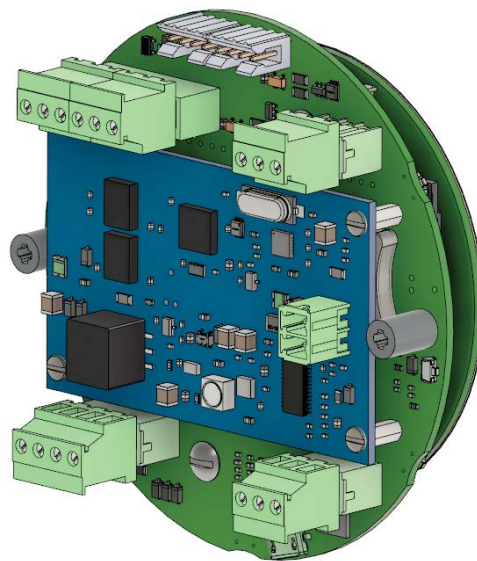

Figure A.13—Completed installation of expansion board
- Install the three remaining screws through the corner holes of the expansion board and into the standoffs to secure the expansion board to the standoffs (Figure A.13).